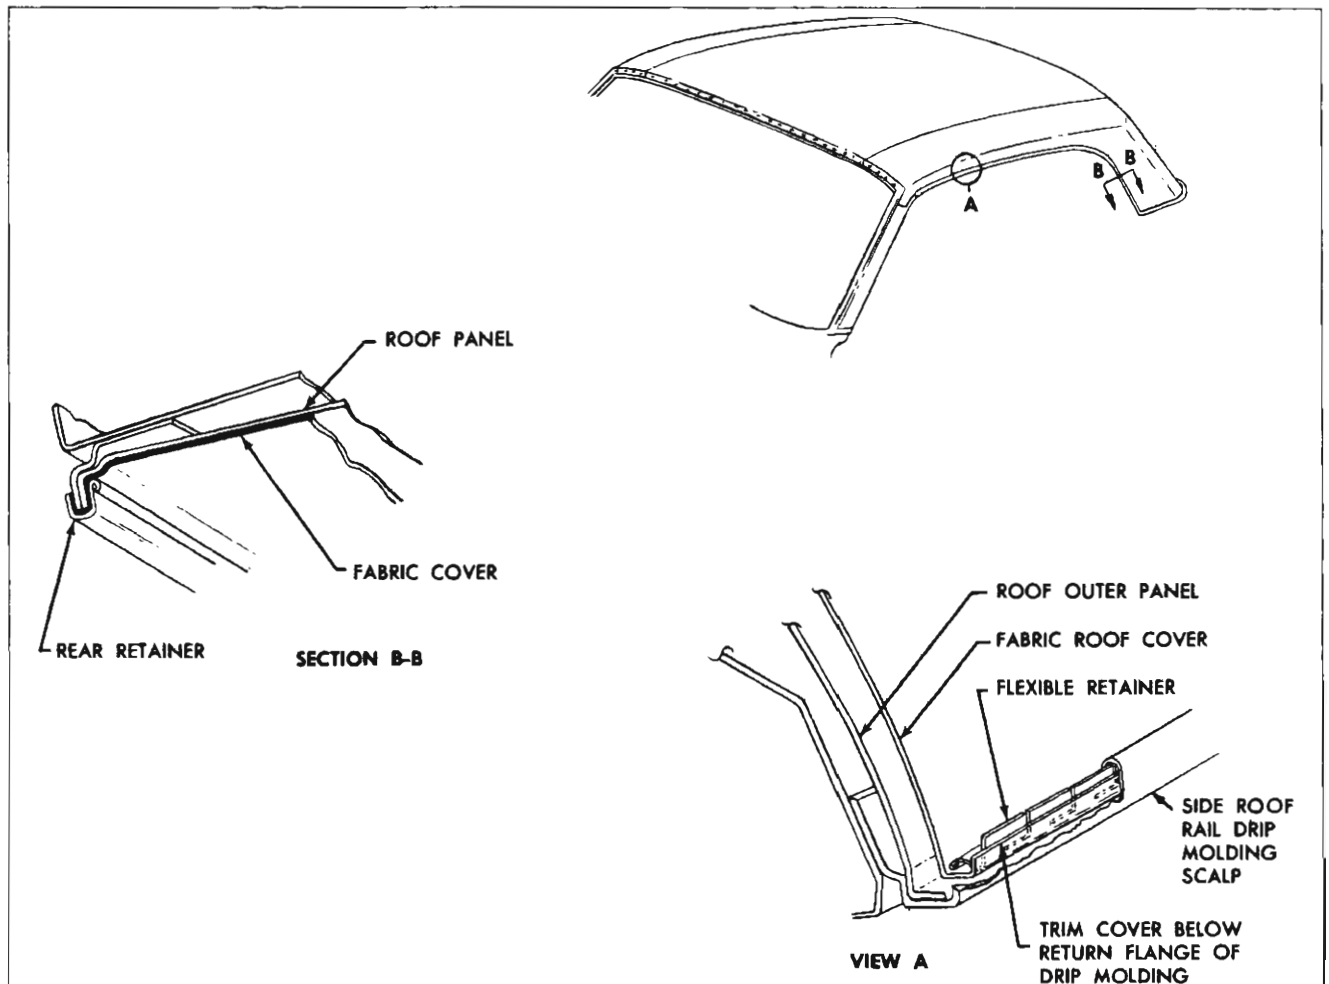

Fig. 115—Body Fabric Roof Cover
4. Removal of flexible retainers securing fabric cover inside right and left drip moldings can best be completed by inserting tip of screwdriver or similar tool under forward end of retainers. (See View "A" in fig 115.) Working from front to rear of body, disengage fingers of retainers from side roof rail drip molding flanges. Continue above operation until retainers can be removed from body.